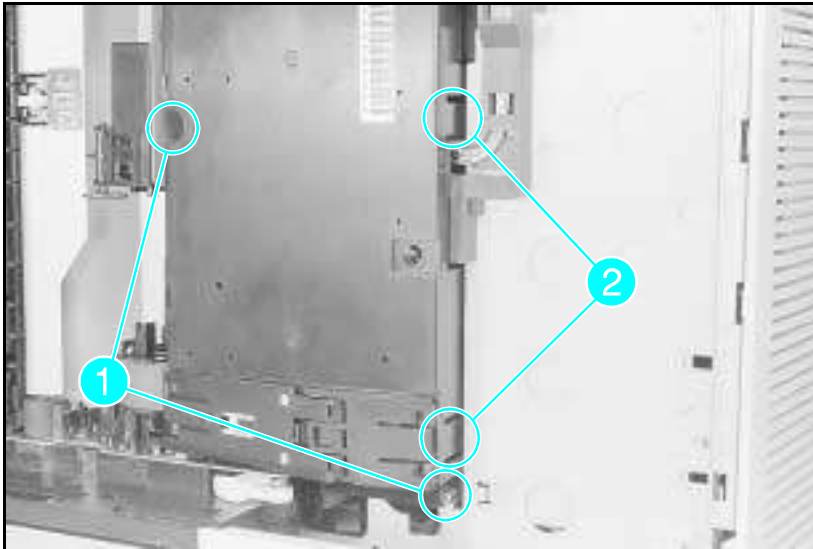

Figure 6-19 HVPS Screws (2) and Latches (2) (Bottom View)
- 3** Remove the (2) screws that hold the HVPS in place (see Figure 6-19, callout 1).
- 4** Release the (2) latches that hold the High Voltage Power Supply (see Figure 6-19, callout 2).
- 6** Remove the HVPS from its housing by releasing the (4) retaining clips that hold the PCA in place.